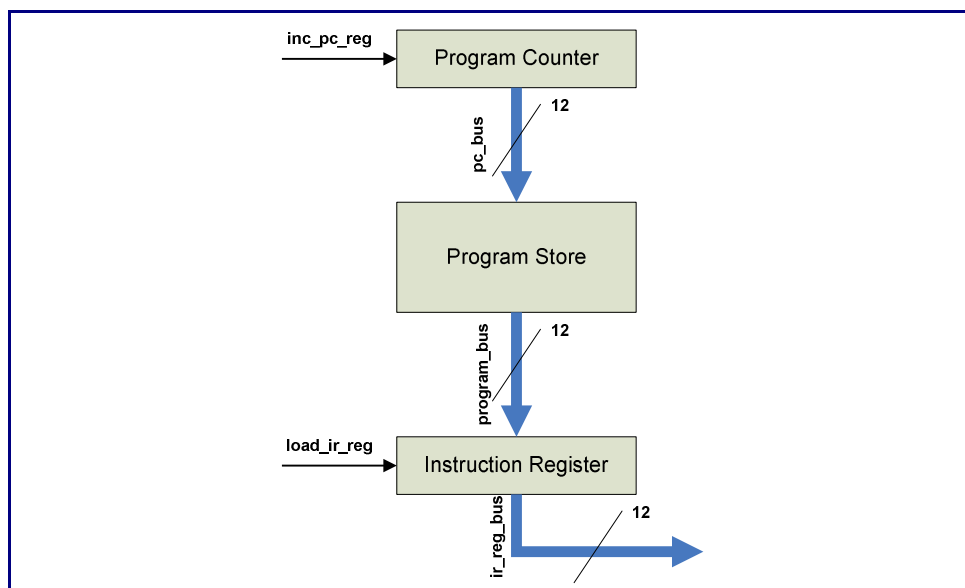

Figure 2. The Program Word fetch logic.
The PIC10 architecture has a Program Counter (PC) register that is incremented as instructions are executed (see Figure 2 below). The PC register can also be parallel loaded when a CALL, GOTO or RETLW instruction is executed. This enables subroutine calls and jumps to take place in the executed program.